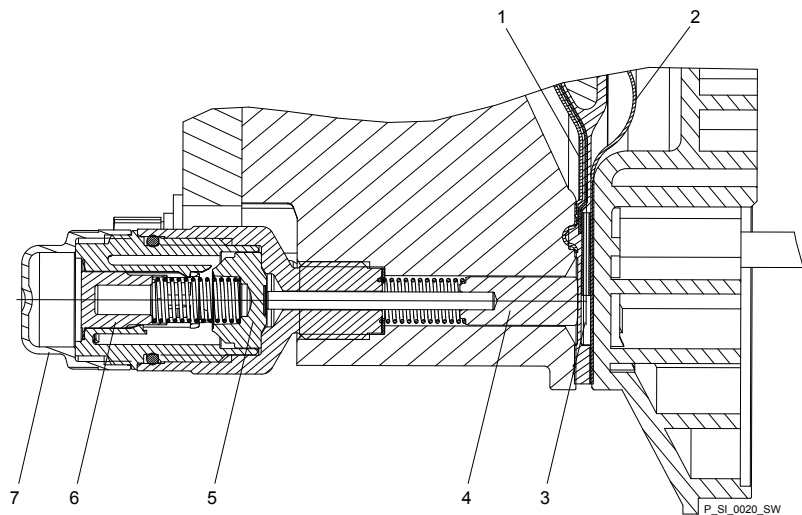

Fig. 35: Section through the Sigma diaphragm rupture warning system ("Visual break indicator" version)
2. ▶ If the piston of the diaphragm rupture sensor - see Fig. 35, item 4 - should have become dirty or damp, clean both it and the hole in which it runs.